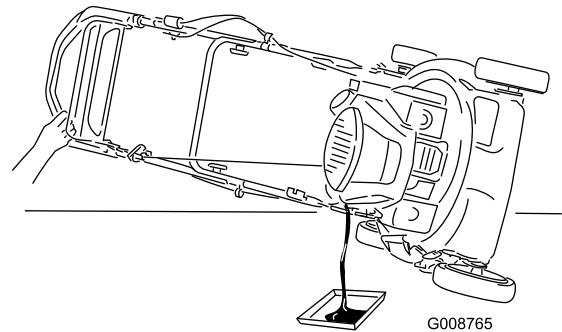

Figure 38
7. Tip the machine onto its side, with the oil-fill tube down, to drain the used oil out through the oil-fill tube into the oil-drain pan (Figure 38).